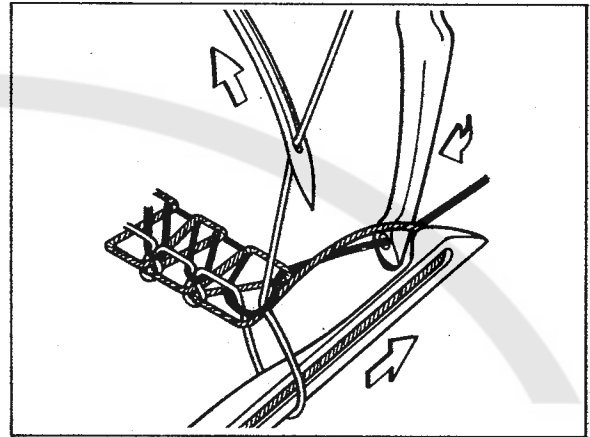

Fig. 9
Rotate handwheel in operating direction and closely observe the path of upper looper/spreader as it travels from the extreme right and approaches the lower looper as shown in Fig. 9. The point of upper looper/spreader MUST pass the notch in head of lower looper with minimum clearance and pass under lower looper thread.
3. Rotate handwheel in operating direction bringing the upper looper/spreader into the lower looper, See Fig. 9. Loosen screw (A, Fig. 11) and set the point of upper looper/spreader to enter the notched area behind head of lower looper with minimum clearance.